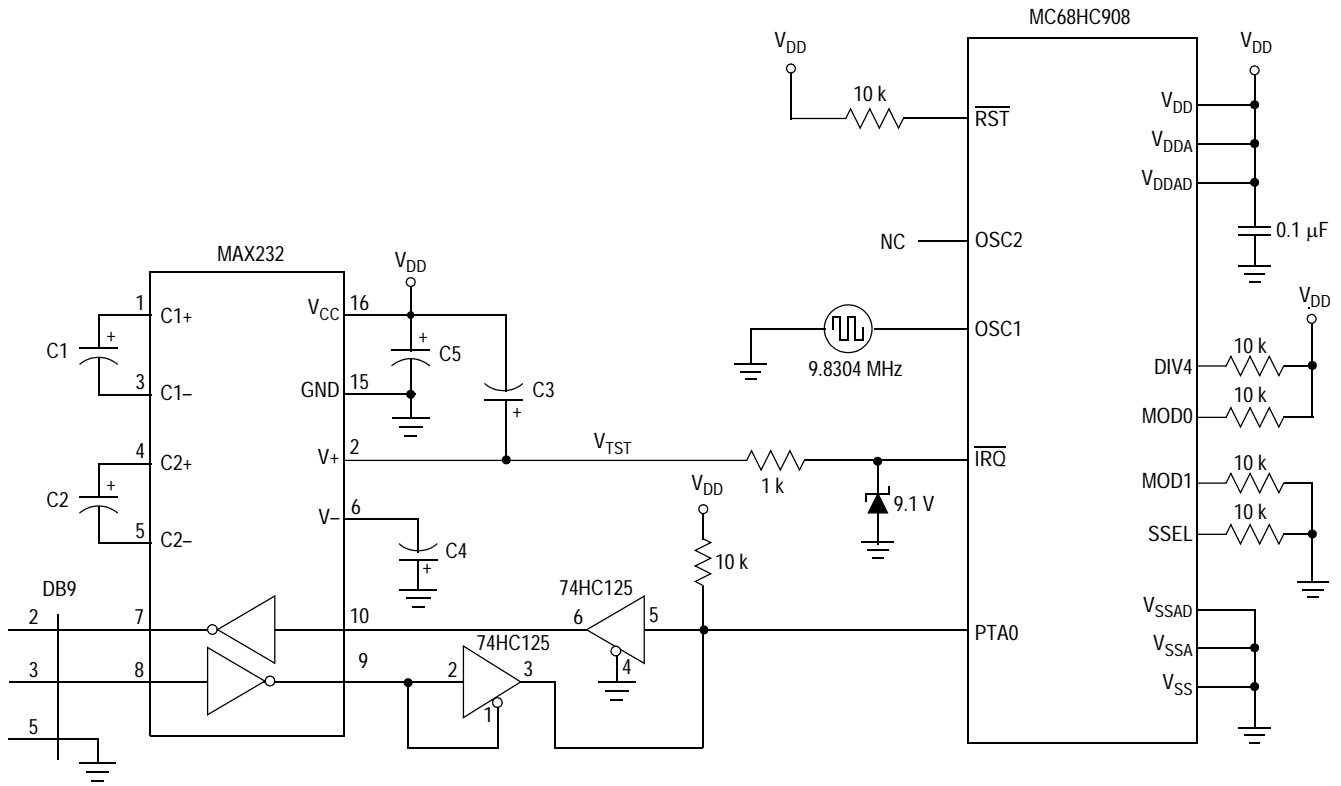
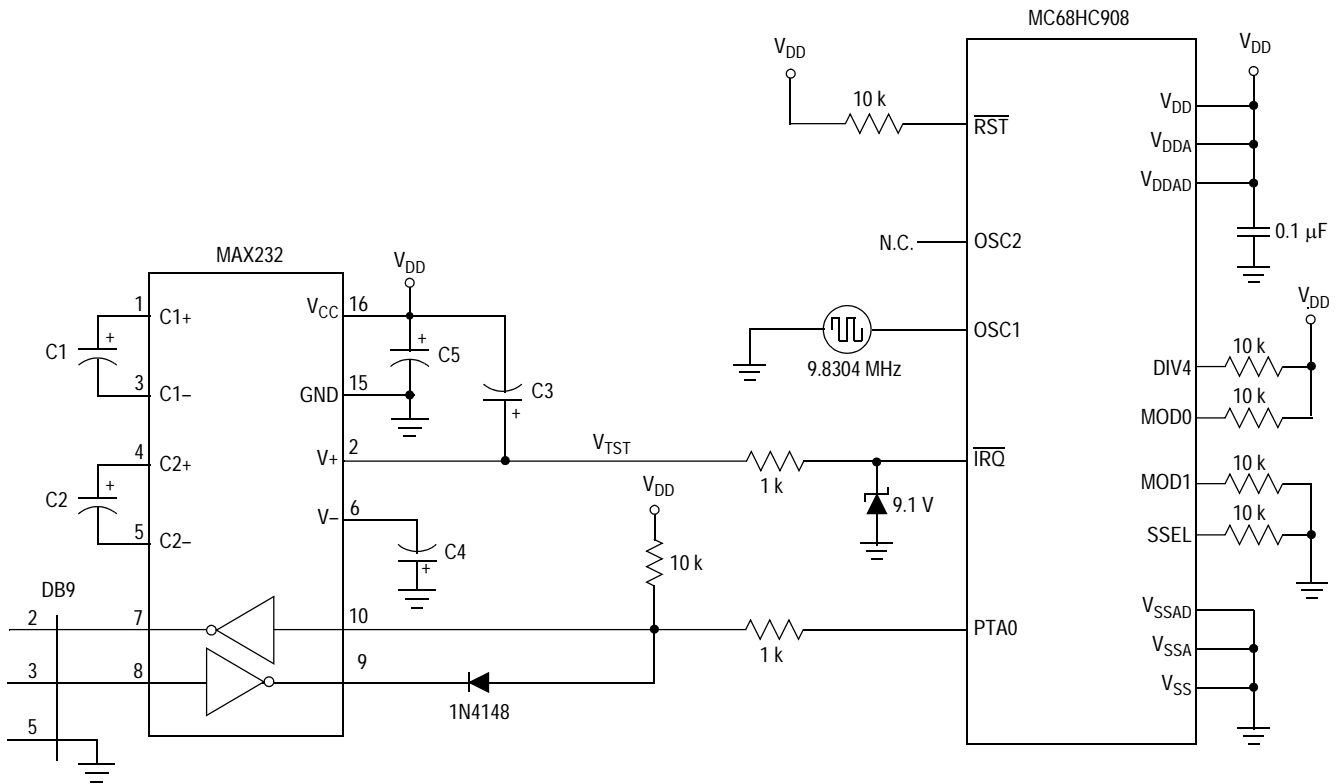
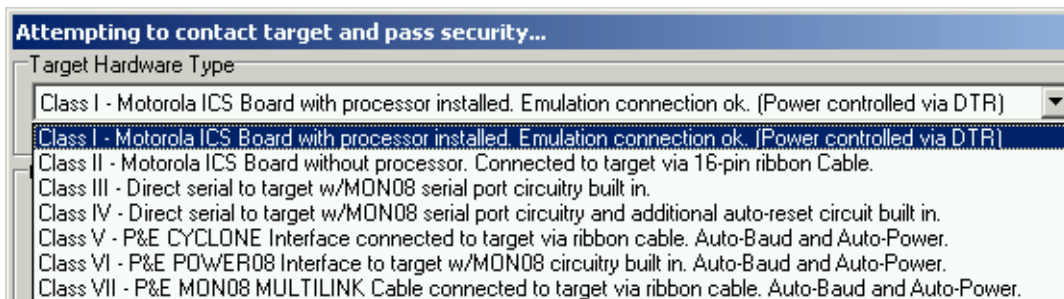

Figure 4. Normal Monitor Mode Circuit
Figure 5. Simpler Monitor Mode Circuit
Figure 10. Hardware Selection in P&E PROG08SZ
The normal monitor mode circuit in most M68HC08 data books looks something like that shown in **Figure 4**. The circuit to the left of the MCU in **Figure 4** shows the MAX232 serial level shifter and the 74HC125 buffers that provide the bidirectional data switching for the serial communications on port PTA0. This portion can be used a stand-alone pod for monitor mode communication with many M68HC08 variants. Notice that we use the V+ supply from the MAX232 to provide the V_{TST} voltage for the \overline{IRQ} pin. The signal generator in the middle of the figure is usually a canned oscillator which can also be placed in the stand-alone pod.
A simpler implementation of the monitor mode circuit of **Figure 4** is shown in **Figure 5**. The two 74HC125 buffers are replaced by a resistor and diode. When PTA0 is outputting a 1, the input at the MAX232 pin 10 is held high. When PTA0 is outputting a 0, the input at pin 10 is driven low. The RS232 level at pin 8 is idling low which drives pin 9 to a logic one. This high level is blocked by the diode so there is no bus conflict. As an input, PTA0 idles high whenever pin 9 is high. When the MAX232 pin 9 goes low, the diode provides the path to pull the PTA0 input low.
The MAX232 shown in **Figure 4** and **Figure 5** can be used to supply the high voltage (V_{TST}) for monitor mode entry. The V+ output of the MAX232 supplies about 9 V for the RS232 communications interface, which is adequate for monitor mode entry. A zener diode and current limiting resistor complete the V_{TST} supply. The \overline{IRQ} pin draws about 200 μ A from the V_{TST} supply when monitor mode is selected.
P&E's ICS08 software packages contain the WinIDE integrated development environment, which pulls together an assembler, in-circuit simulator, memory programmer, and in-circuit debugger. The programmer and debugger work with any MON08 hardware interface, as shown in the target hardware type menu in **Figure 10**. Class III is used with the MON08 interfaces in **Figure 4**, **Figure 5**, and **Figure 7**, above. Classes V and VII are used with the Cyclone and Multilink pods, respectively.
The following examples illustrate how to program and debug an M68HC908GT16 MCU with P&E's PROG08SZ and ICD08SZ tools. The MON08 pod in this example is a custom version of the circuit shown in **Figure 4**.
6. From Target Hardware Type, select Class III (see Figure 10).